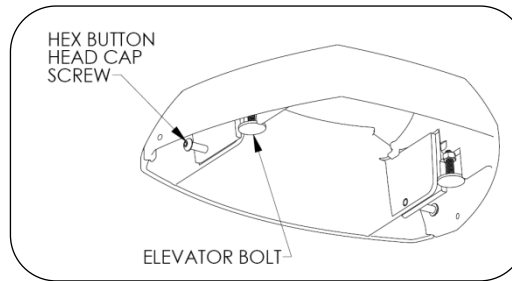

Fig.6 – Cover plate
1. Loosen button head cap screws until cover plate halves disengage as shown in Fig. 6.